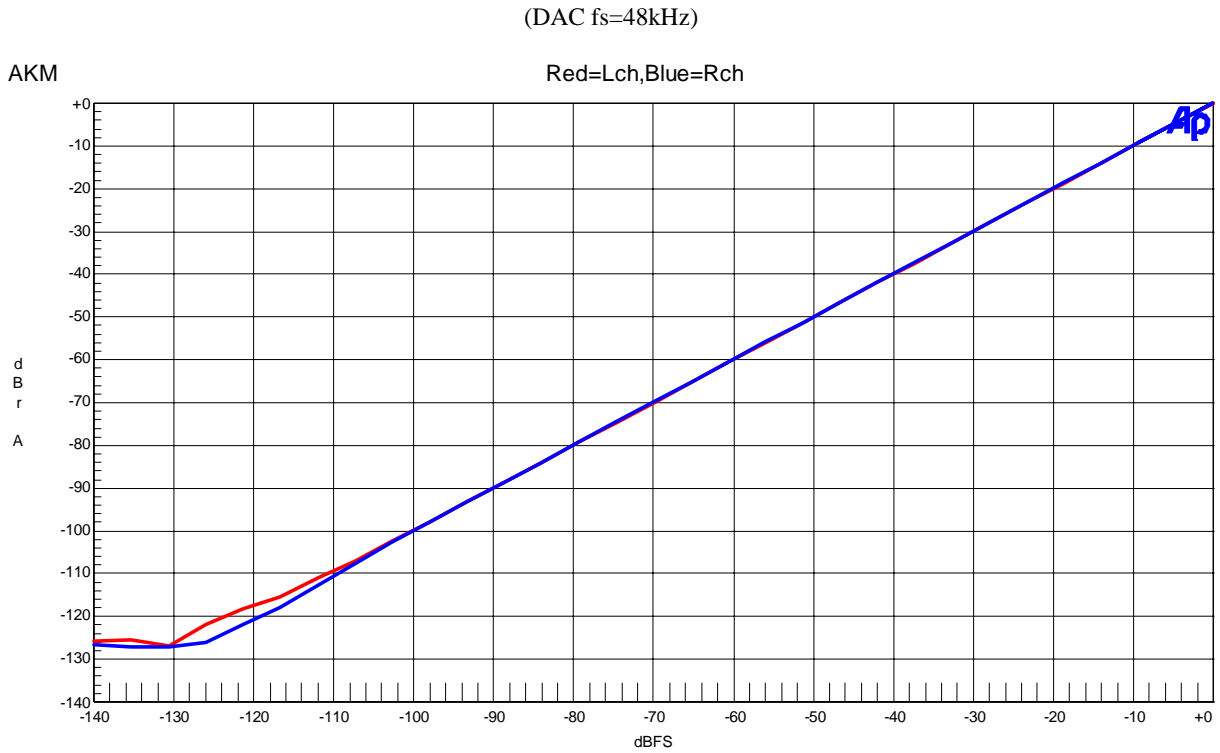

Figure 30. Linearity (Input Frequency=1kHz)
- Figure 30. Frequency Response (Input Level=0dBFS)